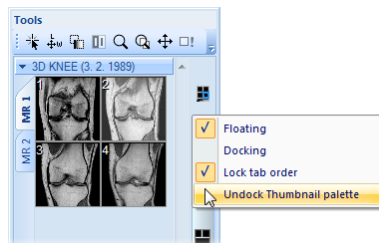

Figure 25 – Undock thumbnail bar from Tools panel by context menu
2. Select the **Undock thumbnail** item in displayed context menu (see Figure 25).